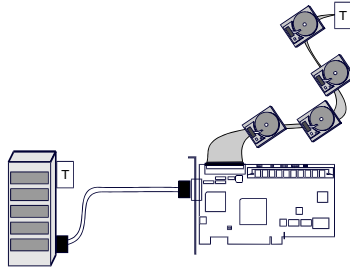
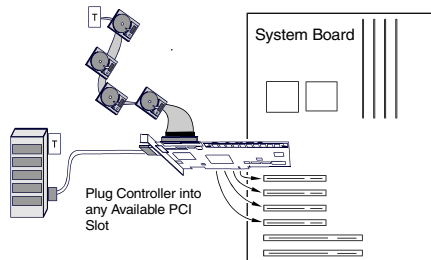

Figure 4. Connecting Internal and External Drives
Figure 5. AcceleRAID 150 or 250 in a Typical Standard Installation
8. Connect a wide, high-density, 68-pin SCSI ribbon cable to the internal SCSI connector on the AcceleRAID 150 or 250 and connect the other cable connectors to any internal SCSI drives as required (see Figure 4).
9. Connect an active terminator to the end of the SCSI ribbon cable at the end farthest from the controller (see Figure 4).
10. Connect a wide, round, 68-pin Very High Density Connector Interface (VHDCI) cable to the external SCSI connector on the AcceleRAID 150 or 250 and connect the other end of the cable to an external drive cabinet as required (see Figure 4). External drive cabinets usually have termination built into the end of the SCSI bus. Check the documentation that comes with your drive cabinet to be sure this is the case. If not, use an active terminator at the end of the bus. See Figure 5 for an example of a completed, typical installation.